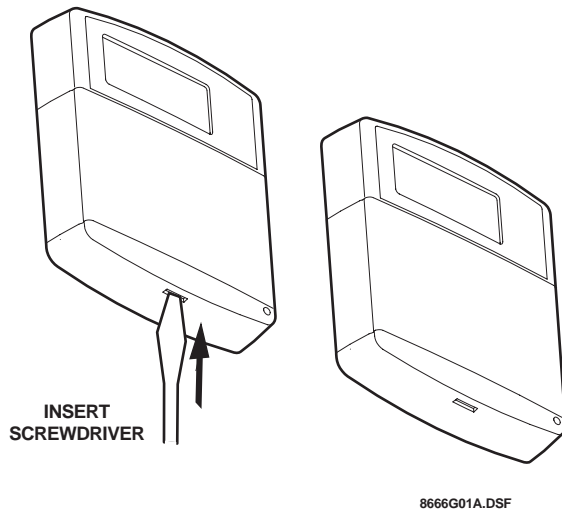

Figure 1. Separating the Touchpad from the Mounting Plate
1. Insert the blade of a small screwdriver at the top of the slot, located on the bottom of the touchpad and gently press down until the mounting plate separates from the touchpad (see Figure 1).